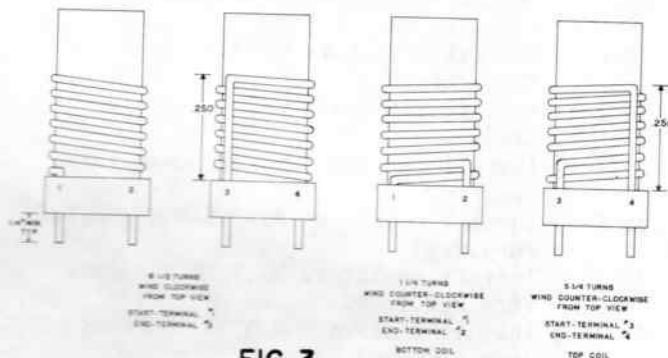

FIG. 3
- 4C. ( ) Wind coils L2 and L3 per fig. 3. Note: L2 and L3 are wound by winding all the #26 wire supplied on a 3/16" dia. dowel. Drill a small hole in the dowel to accept the #26 wire. Stretch magnet wire a slight amount, insert wire in the hole and wind 1/2 the wire supplied. Cut off the coil and wind